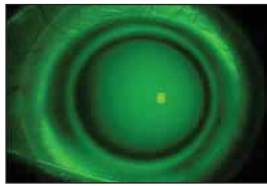

Figure 10: SynergEyes KC lens showing heavy bearing at the soft/RGP junction
4. Heavy bearing at junction - if you observe heavy bearing at the RGP/soft junction, which appears as a dark ring at the visible junction between the materials (Figure 10), this tends to cause a 'tight' feeling for the patient, who will often complain that it feels like the lens is 'squeezing' the eye. If this problem is left uncorrected, it will result in an uncomfortable lens that is very difficult to remove, and will often leave a ring of staining on the cornea, like a 'coffee cup stain'. Instinct tells you to flatten the fit, however this will reduce the overall sag and make the problem worse. Counter-intuitively, you actually need to **STEEPEN** the skirt curve, which will effectively increase the sag and lift the junction off the eye, helping it land at the skirt.